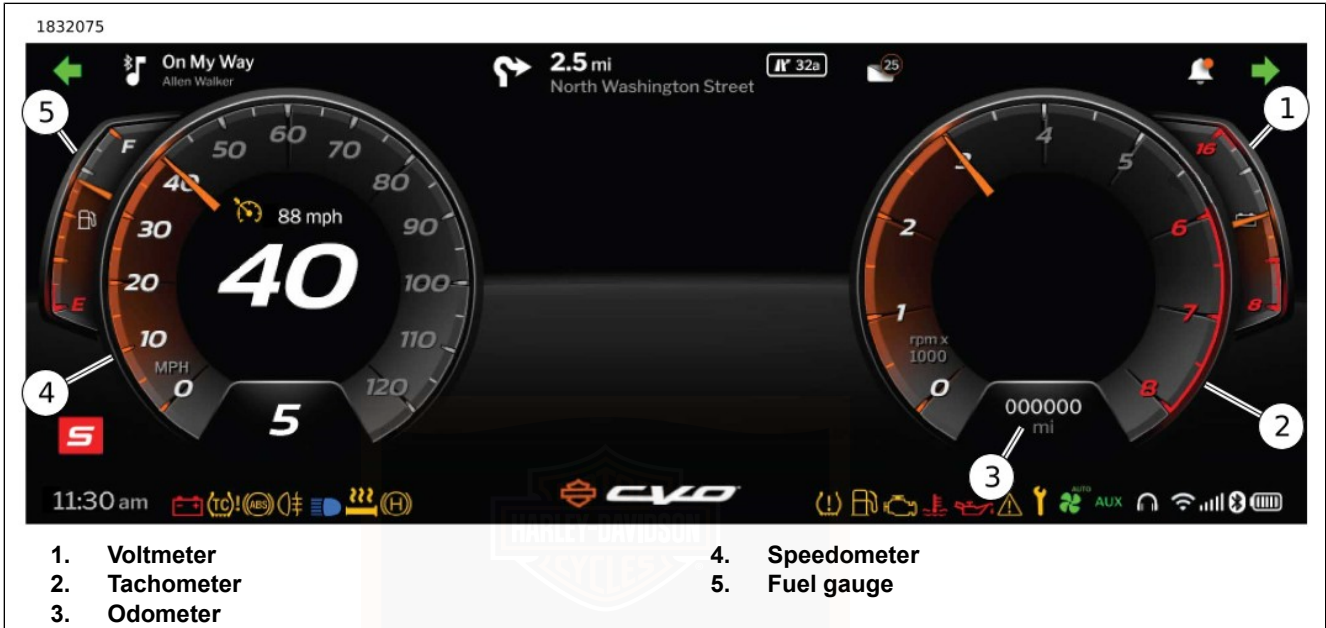

Figure 28. IFCU Instruments
See Figure 28. The current road speed is displayed in the speedometer (4) in the IFCU display module. The accumulated mileage is displayed in the odometer (3).
See Figure 28. The speedometer (4) registers forward vehicle speed in miles per hour (mph) (U.S.) and/or kilometers per hour (km/h).
See Figure 28. The tachometer (2) measures the engine speed in revolutions per minute (rpm x 1000).
See Figure 28. The fuel gauge (5) indicates the approximate amount of fuel in the fuel tank.
See Figure 28. The voltmeter (1) indicates the measured electrical system voltage. With the engine running above 1500 rpm, the voltmeter registers 13.0-14.5 V with battery at full charge.
See Figure 28. The odometer (3) indicates the total accumulated mileage for the motorcycle. Press the trip switch to cycle through the different widget displays.